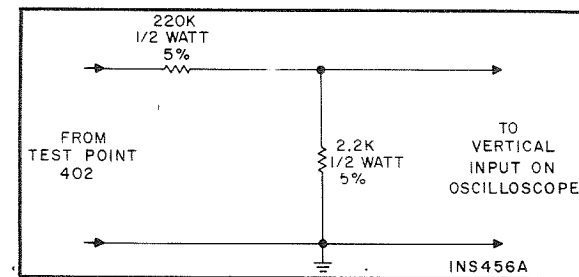

Figure 6. Voltage Divider Probe.
(5) Connect AC VTVM to Left RCDR OUT jack. Connect scope through voltage divider probe (see Figure 6) to Test Point 402 (pin 4K on AM/FM IF, MPX board).